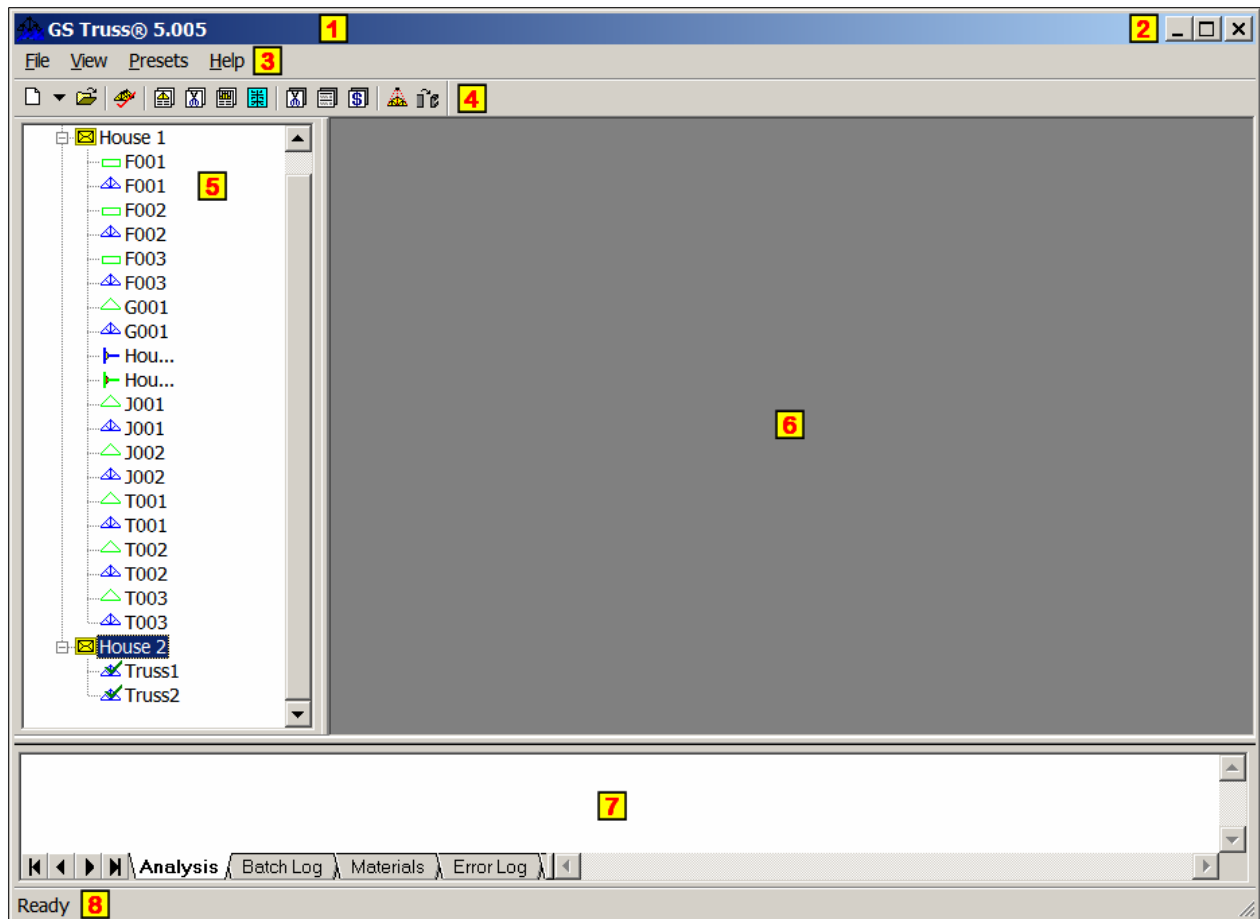
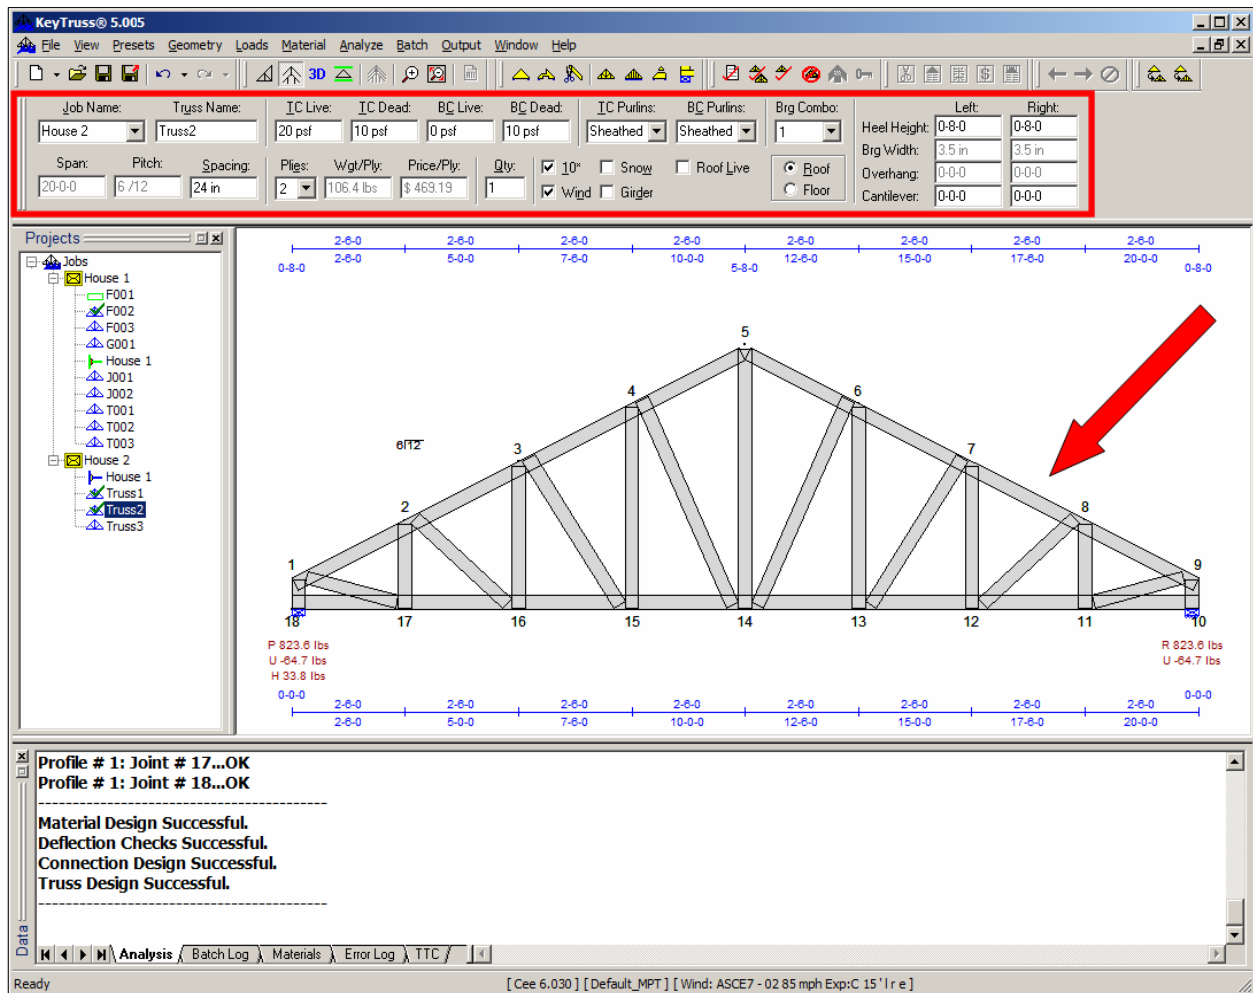

Figure 1: Parts of the GS Truss application window.
Figure 2: When a truss file is opened, the truss is displayed on the *Main Screen* and the *Job Bar* opens at the top of the window.
When the GS Truss application is started, it will open a window like the one pictured in Figure 1 above. The GS Truss window consists of some components that are standard to all windows, as well as others that are unique to GS Truss. The label numbers presented in Figure 1 coincide with the descriptions that follow:
6. **Main/Gray Screen** – The *Main/Gray Screen* takes up the majority of real estate in GS Truss. When no truss file is open (as in Figure 1), this area is referred to as the *Gray Screen*. When a truss file is open (as in Figure 2 on the following page), it is referred to as the *Main Screen*.
Once a truss file has been opened, there are two fundamental changes that occur within the GS Truss interface. As can be seen in Figure 2 below, the first change is that a diagram of the opened truss is displayed in the *Main Screen*. The second change is that the *Job Bar* opens up with detailed information about the truss. For more information about the *Job Bar*, see this document's section entitled "Creating a Truss from Scratch."
Status Bar – When this menu item is activated, a *Status Bar* will appear at the bottom of the GS Truss application window. (See Figure 1 on page 6.)
Projects Window – When activated, the *Projects* window will appear within the GS Truss application window. (See Figure 1 on page 6.)
Data Window – When activated, the *Data* window will appear within the GS Truss application window. (See Figure 1 on page 6.)